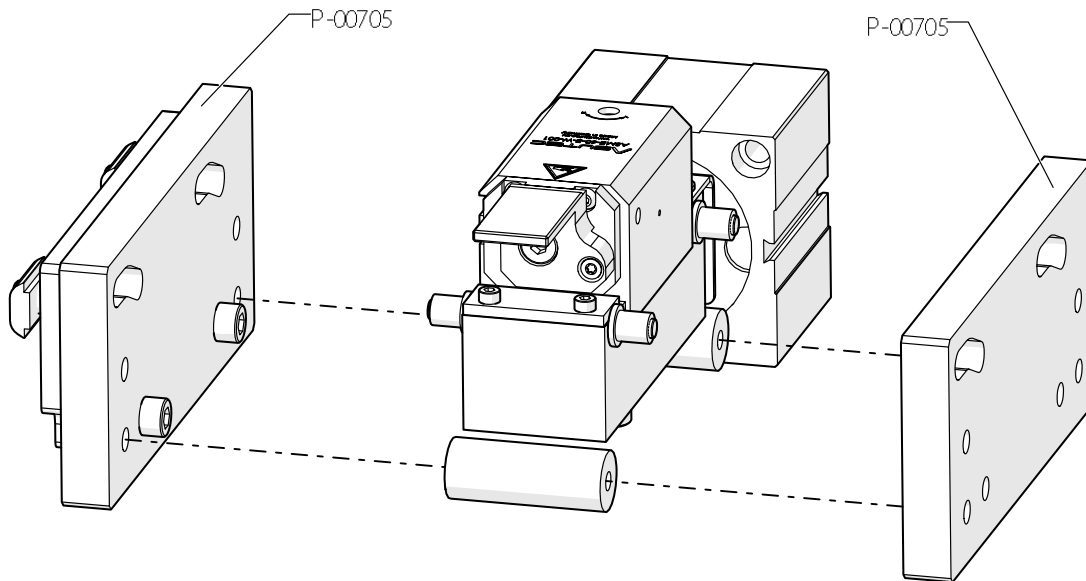

Figure 42: Remove both P-00705
Step 3: Remove P-00705 from both sides of TVDS as shown in Figure 42.